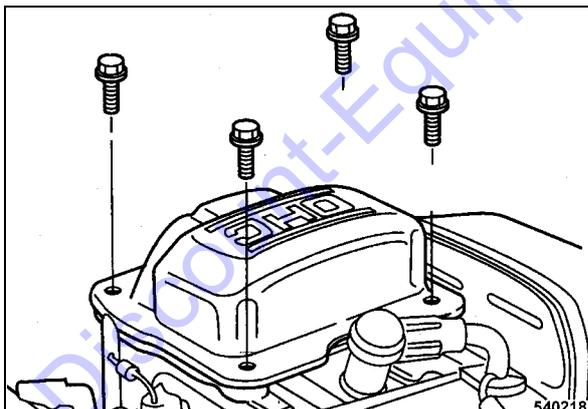

Fig. 45
- Unscrew the fastening screws for the cylinder head cover (Fig. 45).